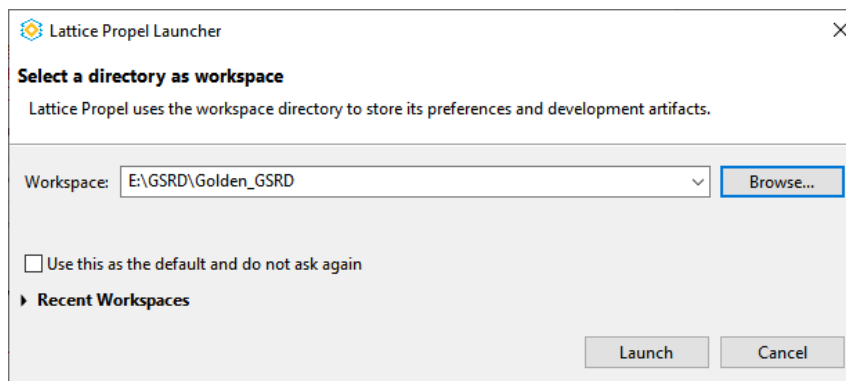

Figure A.19. Select Directory
- To select the workspace, browse to the template location or where your project is located. Select `\Golden_GSRD` by clicking on the **Browse** button as shown in Figure A.19.